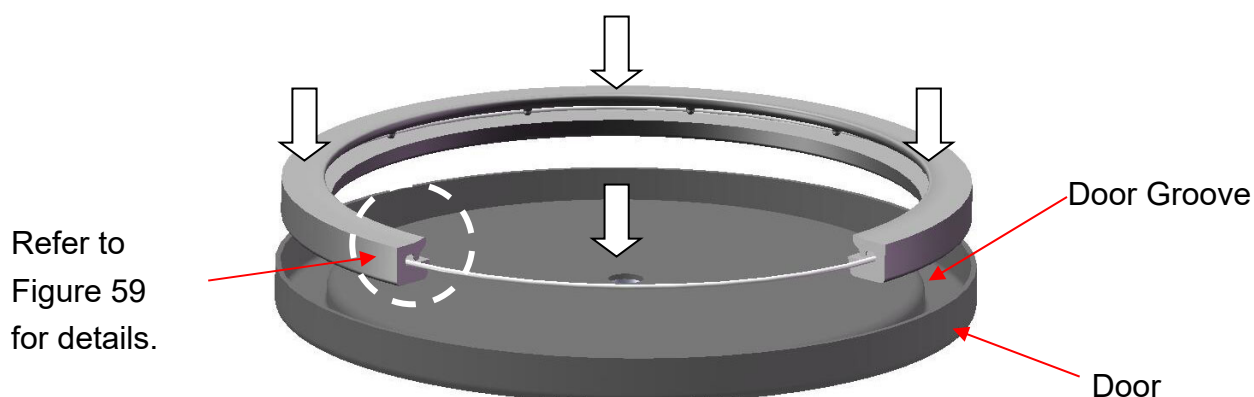
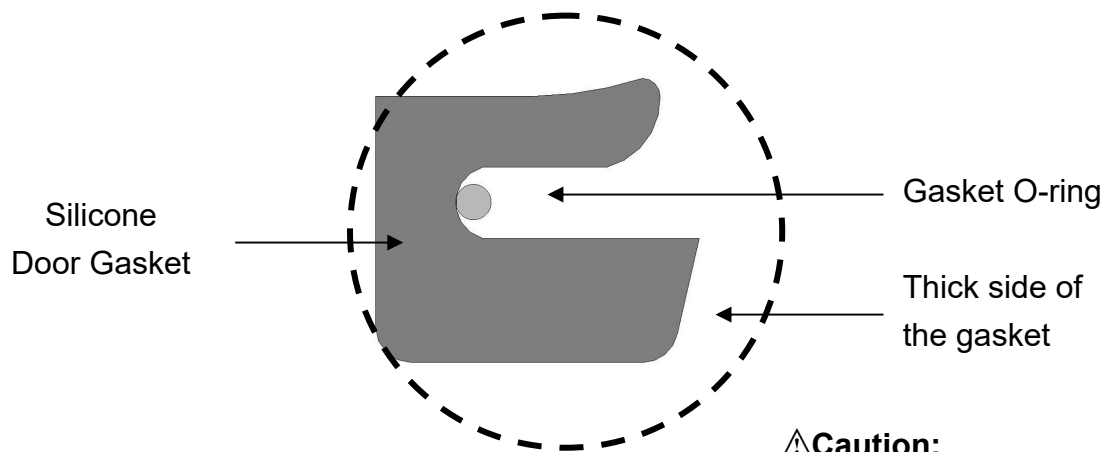

Figure 58
Figure 59
3. Install the gasket with the o-ring inside to the door groove. Press the gasket into the door groove evenly as Figure 58. Take notice of the installation direction while pressing the gasket into the groove as the gasket is designed with a trapezoidal section. Refer to Figure 59 for the correct direction.